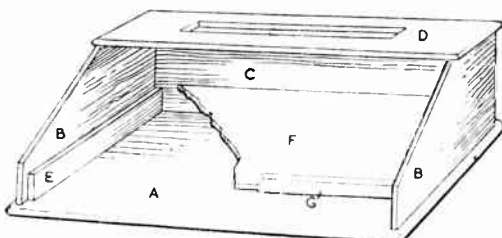

Fig. 2—Showing construction of the desk
It will be noticed that an extra piece (L) is fixed to the front of the drawer. It projects ¼in. at each end and thus measures 16½ins. by 1½ins. It will be seen by comparing the sketches in Fig. 1 and Fig. 2 that piece (L) comes up flush with the side rails (E) when the drawer is pushed home.
A glance at Fig. 2 will show that the desk is glued and nailed or screwed to the base (A) which measures 18ins. by 13ins. by ¾in. It is not essential to have this in one piece. It can be made up of two or more pieces butted and glued together. The sides when screwed in place will strengthen them sufficiently.